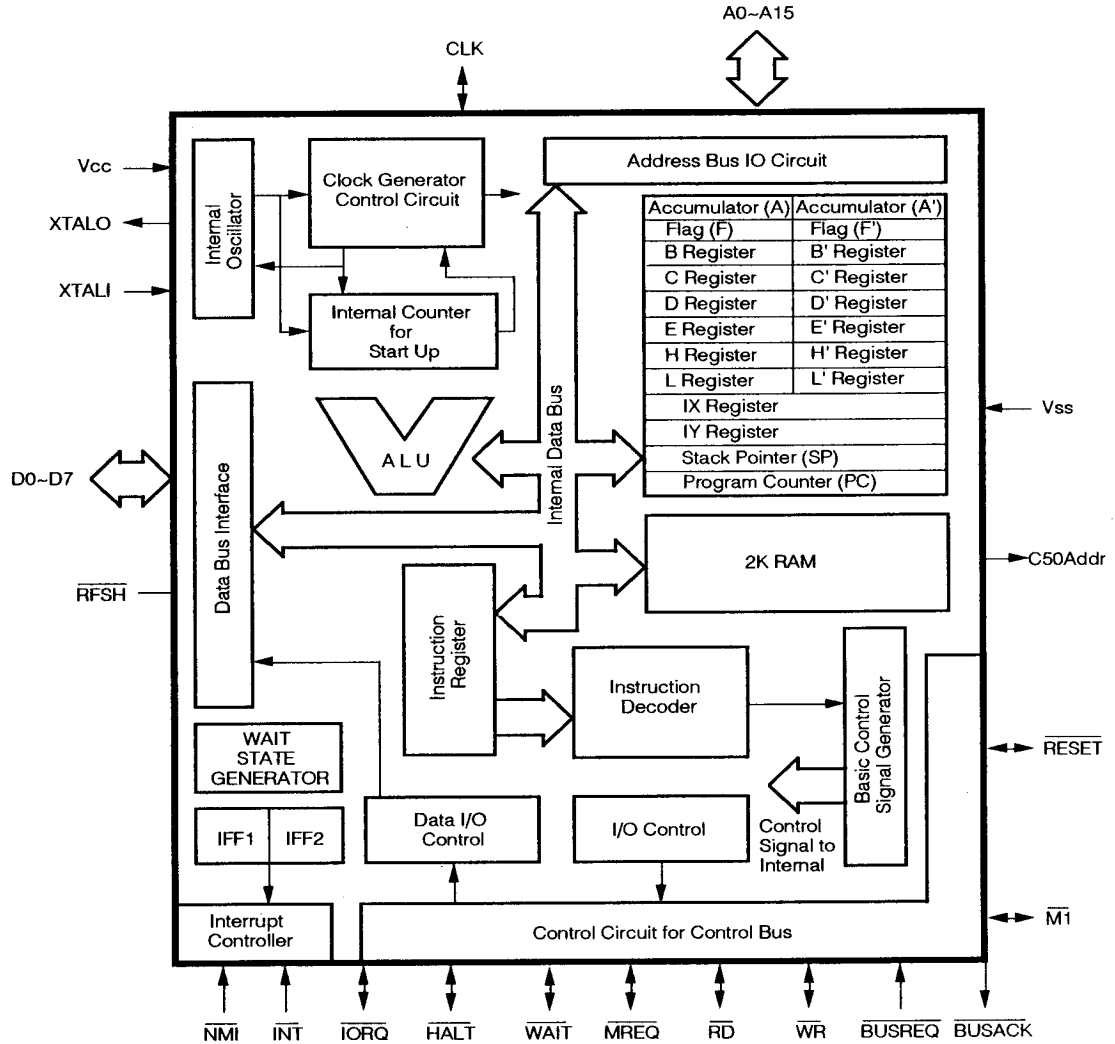

Figure 4. Block Diagram
**Block Diagram.** The block diagram of the internal configuration is shown in Figure 4.